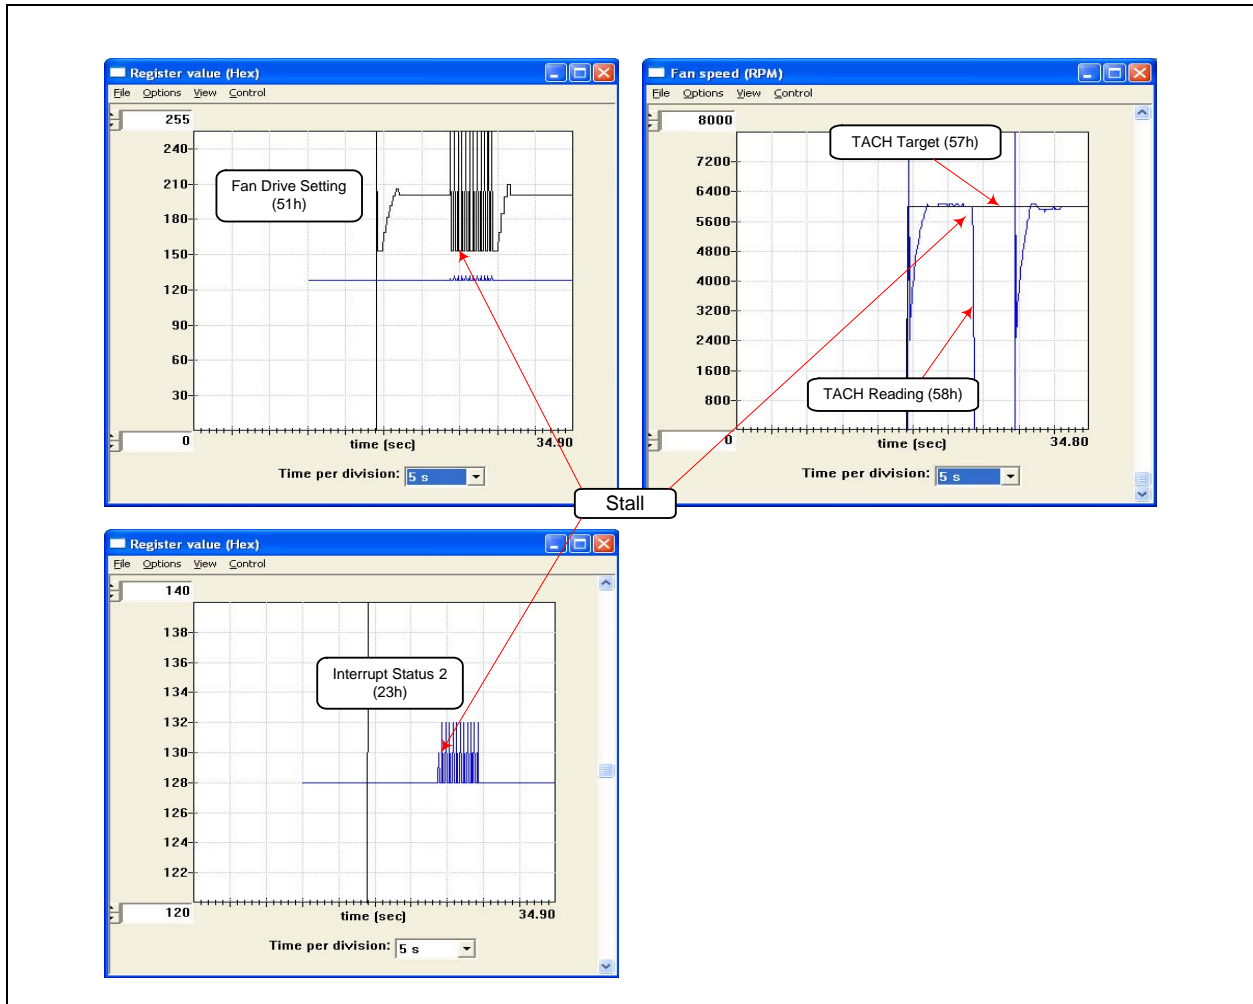

Figure 5.22 Fan Spin and Stall
Start the plotting function within ChipMan, and force the fan to stop spinning. This will induce a Fan Stall condition. The plot of the Status Register will show a peak of 1 count for the stall condition, followed by peaks of 2 counts for each time the spin-up routine is invoked, as shown in Figure 5.22, "Fan Spin and Stall". In order to see the spikes mentioned above, the max scale on the register 27h plot needs to be modified. To do this, simply double click the 255 at the top of the "Y" axis, type a different maximum value (10) and enter. And then double click the 0 at the bottom of the "Y" axis, type a minimum value and enter. The scale will be changed.